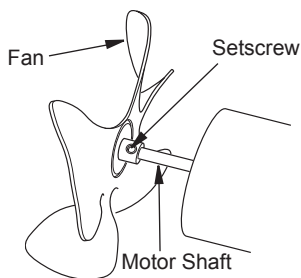

Figure 6 - Fan, Motor Shaft and Setscrew Location
4. Replace fan on motor shaft. Make sure set-screw is touching back of flat surface on motor shaft (see Figure 6).